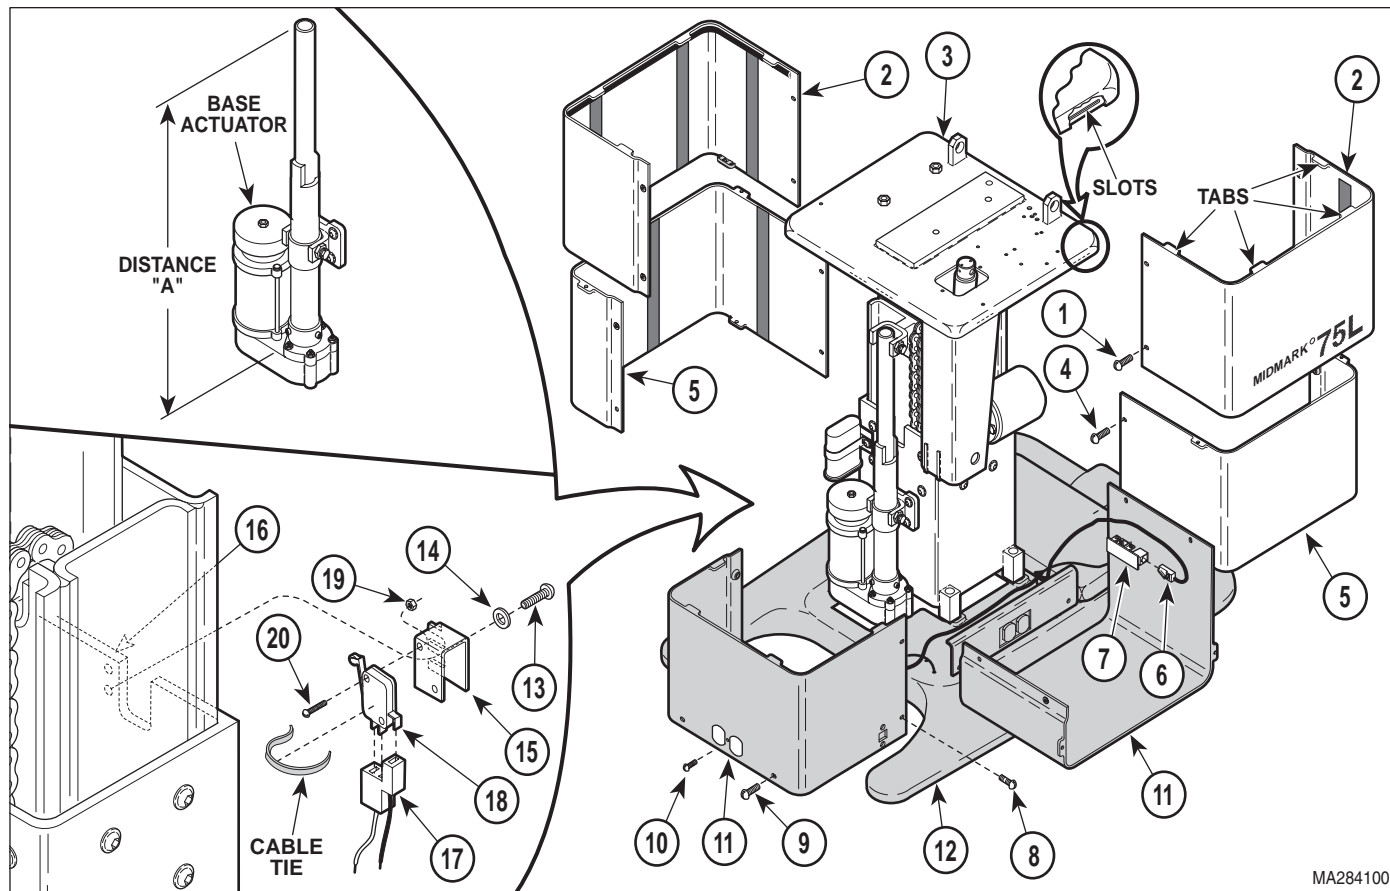

Figure 4-22. Base Up Limit Switch Removal / Installation / Adjustment
- (1) Unplug table power cord from wall outlet.
- (2) Remove four screws (1, Figure 4-22) and R.H. and L.H. outer shrouds (2) from column adapter weldment (3).
- (3) Remove four screws (4) and R.H. and L.H. middle shrouds (5).
- (4) Disconnect modular cords (6) from inlet PC boards (7).
- (5) Remove four screws (8), four screws (9), two screws (10), and partially remove R.H. and L.H. inner shrouds (11) from base casting (12).
- (6) Remove two screws (13), washers (14), and partially remove limit switch bracket (15) from column weldment (16).
- (7) Cut cable tie securing wire harness (17) to base up limit switch (18).
- (8) Disconnect wire harness (17) from terminals of base up limit switch (18).
- (9) Remove two nuts (19), screws (20), and base up limit switch (18) from limit switch bracket (15).